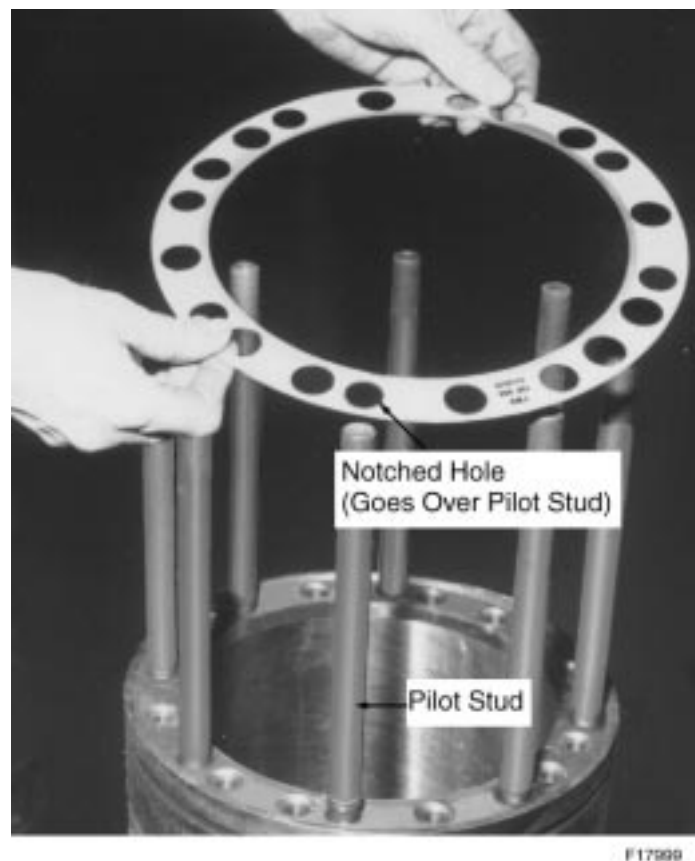

Figure 5-19. Head-To-Liner Gasket
56. Install the head-to-liner gasket, Figure 5-19., making sure that the proper gasket is used and that the gasket is placed over the liner studs with the part number and TOP stamp facing up, and the notched ear of the gasket is placed over the pilot stud of the liner.